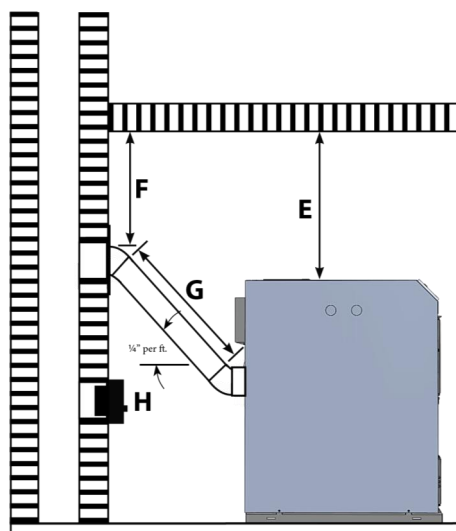

Fig 3.1
The smoke pipe connecting the boiler to the chimney flue must be black or stainless, have a minimum thickness of 24 gauge, and rise a minimum of ¼" per foot of run toward the chimney (**Fig3.1**). Smoke pipe sections must be attached to one another with a minimum of three sheet metal screws and sealed with high-temp silicone. The smoke pipe should not contain more than two 90° elbows (45° elbows are preferred over 90° elbows).
- Recommended draft regulator location (1) is shown in **Fig 3.1**.